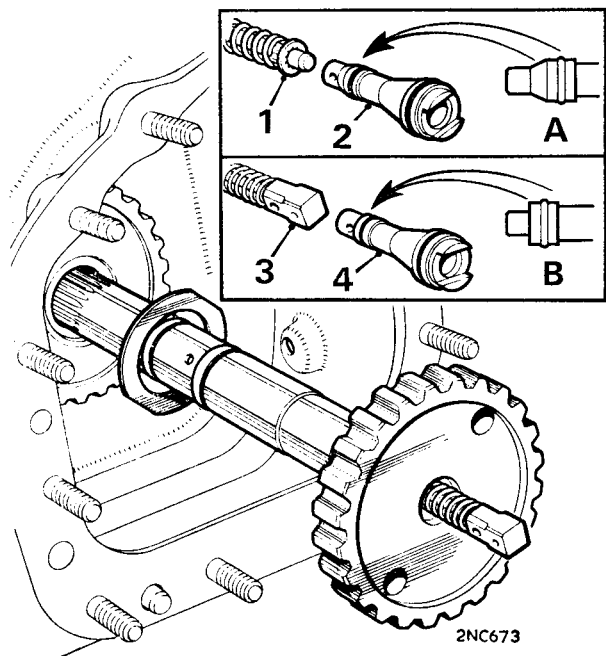

Fig. Fa.9
10. Withdraw the forward output shaft and remove the reverse shut-off valve, which should be identified for reassembly. The Mk. II transmission is fitted with a shut-off valve having a squared bronze thrust pad (see Fig. Fa.9) and a modified valve piston having a square cut shoulder. These can only be interchanged as a pair and the latest type should be fitted when rebuilding the transmission.
30. Insert the forward output shaft with its bi-metal washer (see Fig. Fa.9) through the output gear assembly. Ensure that the correct type of reverse shut-off valve is located in the end of the shaft (see item 10), and that the rings on the shaft are in good condition.